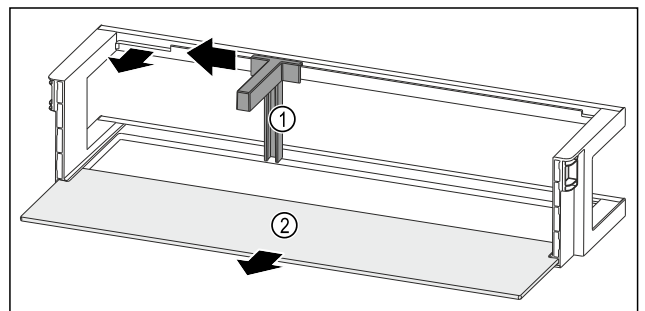

Fig. 94 Door rack with bottle holder and shelf
- ▶ Slide the bottle holder Fig. 94 (1) to the side as far as the recess.
- ▶ Remove the bottle holder Fig. 94 (1).
- ▶ Remove the shelf Fig. 94 (2).